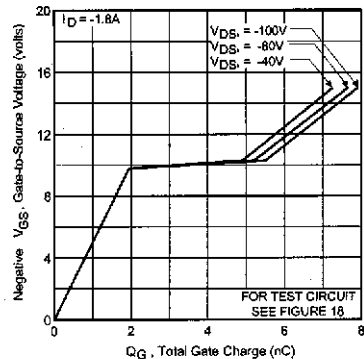

Fig. 11 — Typical Gate Charge Vs. Gate-to-Source Voltage
① Repetitive rating; pulse width limited by max. junction temperature (See Figure 11)
③ $I_{SD} \leq 1.8\text{A}$, $di/dt \leq 70\text{A}/\mu\text{s}$, $V_{DD} \leq V_{(BR)DSS}$, $T_J \leq 150^\circ\text{C}$
② Not Applicable
④ Pulse width $\leq 300\mu\text{s}$; duty cycle $\leq 2\%$.